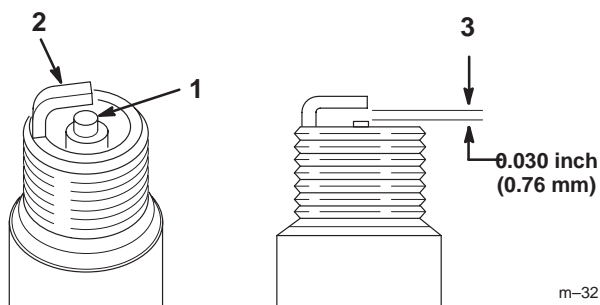

Figure 45
1. Clean the electrodes by scraping or with a wire brush to remove carbon deposits and wetness (Fig. 45).
2. Inspect the spark plug (Fig. 45).
3. Check the gap between the center and side electrodes (Fig. 45). Bend the side electrode (Fig. 45) if the gap is not correct.